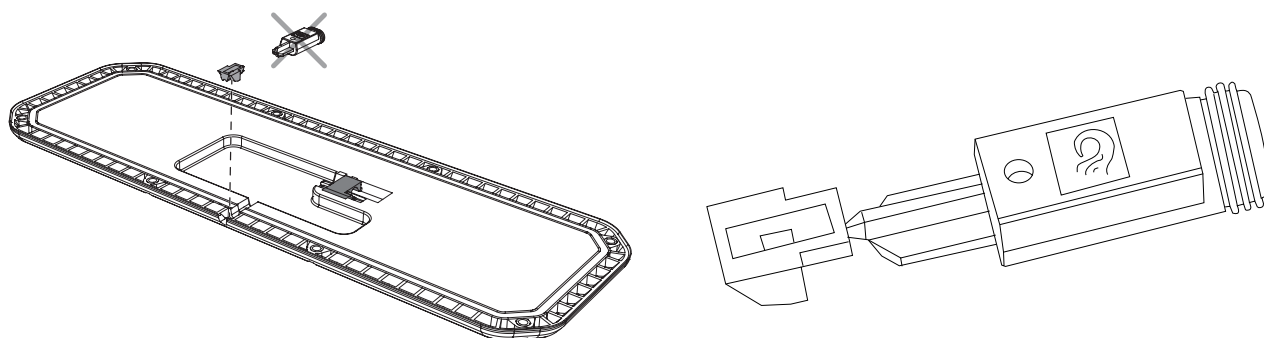

Figure 63. Installation of plug for sealing UCU.
4. Carefully break off the outer part of the plug and place in the recess. See Figure 63.